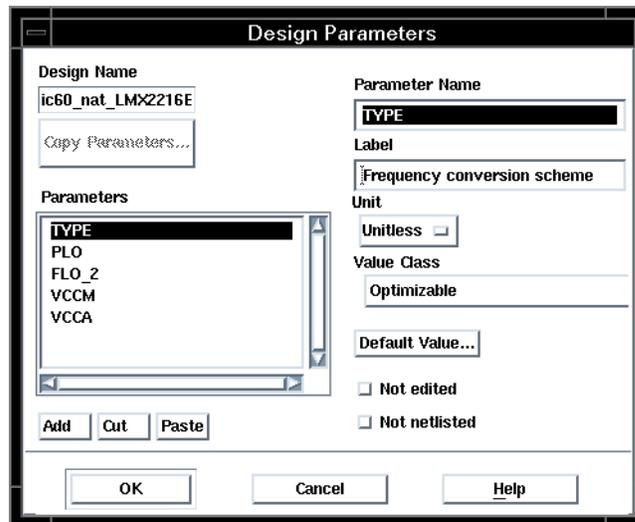

Figure 8. Parameters Dialog Box
4. To attach parameters, choose **Parameters** from **File**. The dialog box for this command is shown in Figure 8.